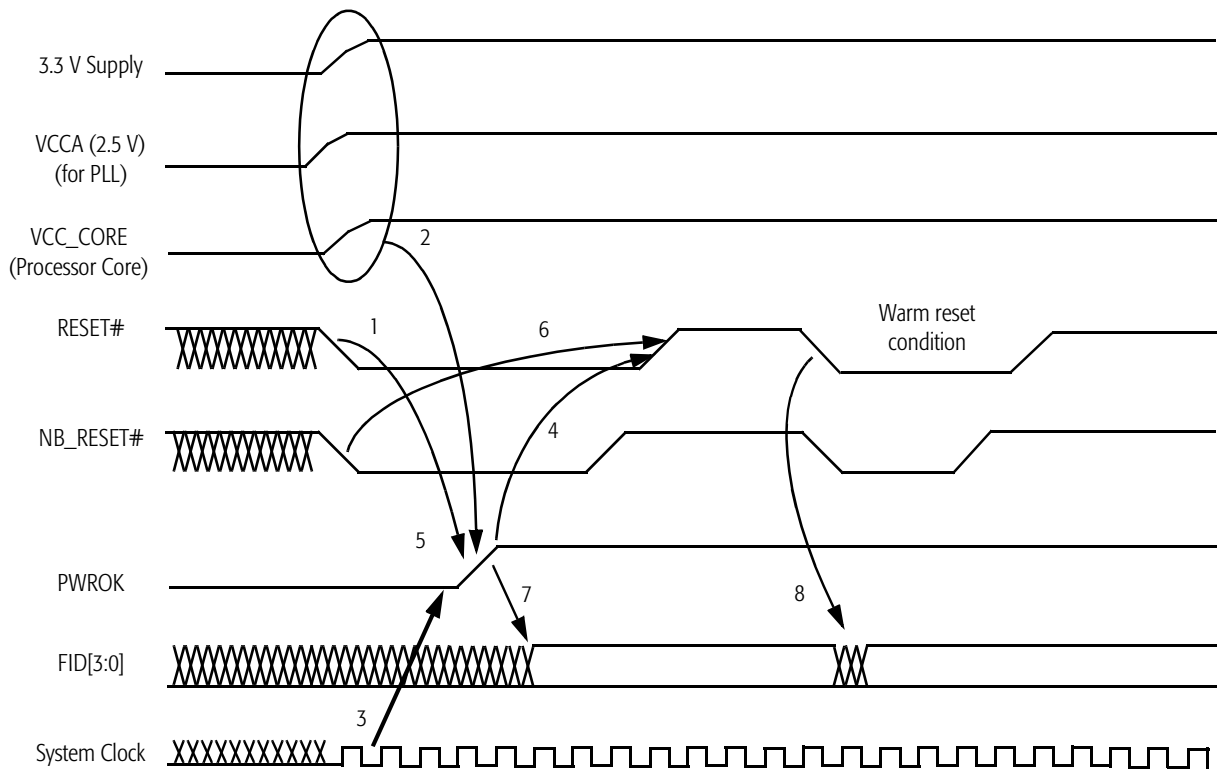

Figure 12. Signal Relationship Requirements During Power-Up Sequence
Figure 12 shows the relationship between key signals in the system during a power-up sequence. This figure details the requirements of the processor.
- Note:** 1. Figure 12 represents several signals generically by using names not necessarily consistent with any pin lists or schematics.
2. Requirements 1–8 in Figure 12 are described in “Power-Up Timing Requirements” on page 44.